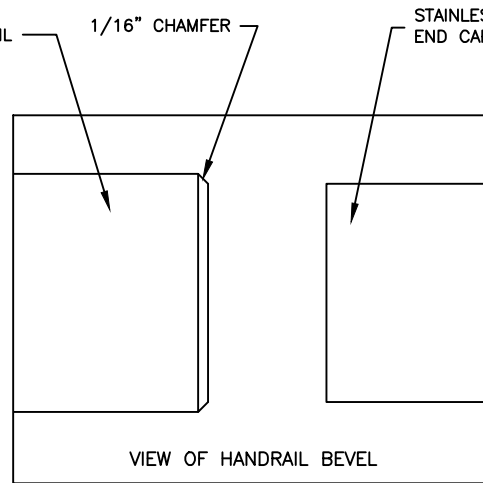

FIGURE 4.
- 6.3. DRILL PILOT HOLES IN BOTTOM SURFACE OF WOODEN HANDRAIL AS PER MOUNTING BRACKET DRILL JIG INSTRUCTIONS (SEE FIGURE 4). MOUNTING BRACKETS ARE TO BE LOCATED AT A MAXIMUM OF 32" [812.8mm] O.C. AND MUST BE 3" [76.2mm] FROM END OF WOODEN HANDRAIL AND 3" [76.2mm] FROM ONE END OF SPLICE. CAUTION: BE SURE THE HANDRAIL DOES NOT ROTATE WHEN DRILLING PILOT HOLE.
- 9.2. CLEAN OUTER SURFACE OF ALUMINUM SPLINE WITH ISOPROPYL (RUBBING) ALCOHOL. ATTACH SPLINE TO THE END OF HANDRAIL USING A #14 HEX/WASHER HEAD SCREW AND STAR WASHER. DRY FIT HANDRAIL TO INSIDE/OUTSIDE CORNER OR END CAP AND CHECK FOR A SEAMLESS TRANSITION BETWEEN WOOD AND METAL COMPONENTS. EASE WOOD EDGES SLIGHTLY WITH 150 GRIT SANDPAPER (SEE FIGURE 4) AND TOUCH UP SANDED EDGES WITH STAIN PENCIL.
- 2.2. CLEAN OUTER SURFACE OF ALUMINUM SPLINE WITH ISOPROPYL (RUBBING) ALCOHOL. ATTACH SPLINE TO THE END OF HANDRAIL USING A #14 HEX/WASHER HEAD SCREW AND STAR WASHER. DRY FIT HANDRAIL TO STAINLESS STEEL SPLICE AND CHECK FOR A SEAMLESS TRANSITION BETWEEN WOOD AND METAL COMPONENTS. WHEN REQUIRED, EASE WOOD EDGES SLIGHTLY WITH 150 GRIT SANDPAPER (SEE FIGURE 4) AND TOUCH UP SANDED EDGES WITH STAIN PENCIL.